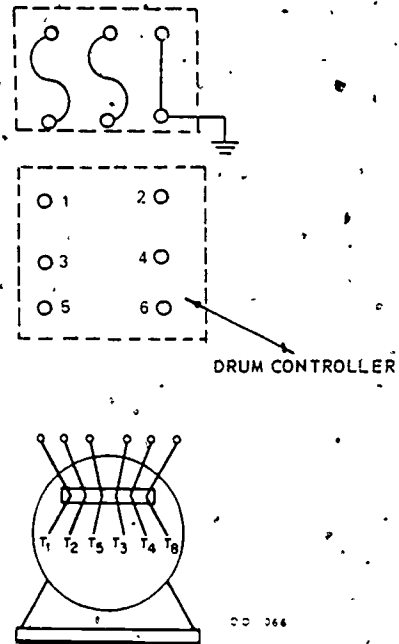

Figure 29. Single-Phase Motor Controlled by a Drum Controller
Step 1. Complete the diagram pictured in figure 29. Motor will be connected for high voltage.
Step 2. Using the diagram you have just completed in figure 29, connect a single-phase motor controlled by a drum controller.